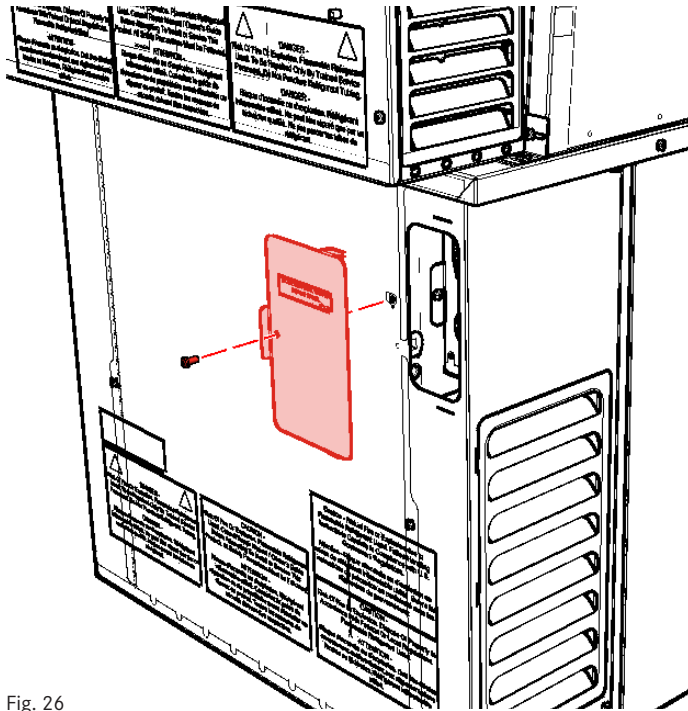

Fig. 26
2. Locate access panel on back of Convertible Cooler Freezer. Remove screw from side of panel, then slide panel over and away to remove (Fig. 26).